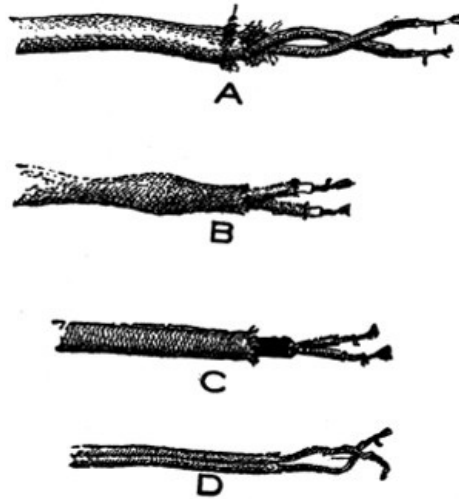

FIGURE 211.
*Stage Cables.*—Stage cables are subject to very rough usage, but there are some very good makes on the market, and by purchasing the best, one can expect long service. Cuts of various kinds of cable likely to be used upon the stage are given in Figure 211. *A* is the ordinary stage